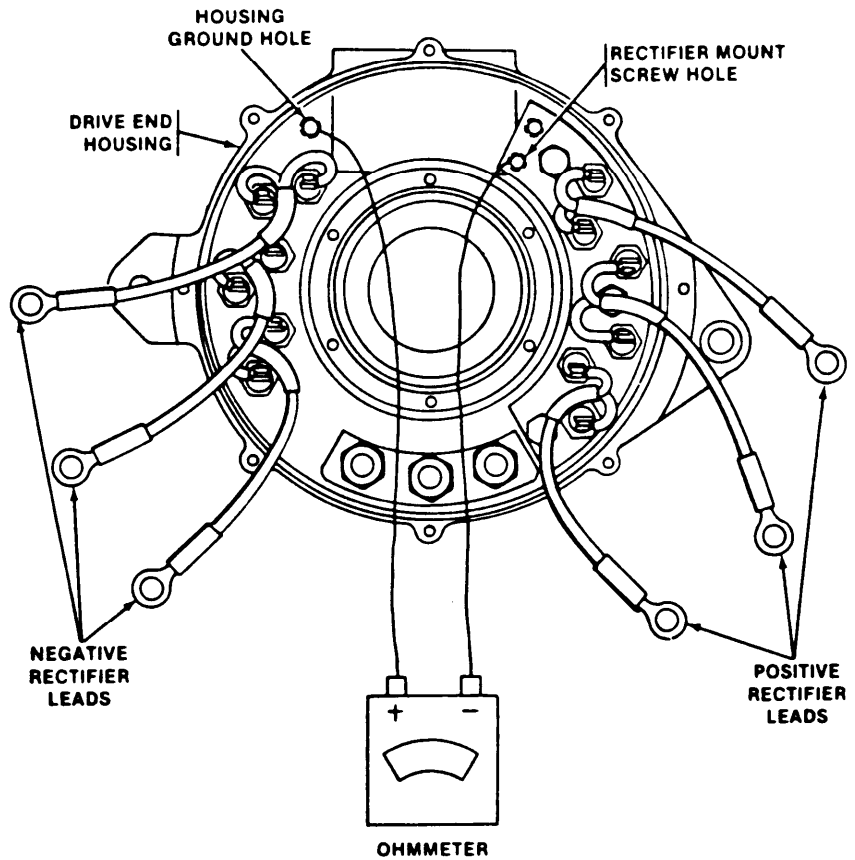

Figure 2-1. Rectifier Mount Ground Test
Step 3. Check for ground between positive rectifier mount and generator frame in accordance with figure 2-1.